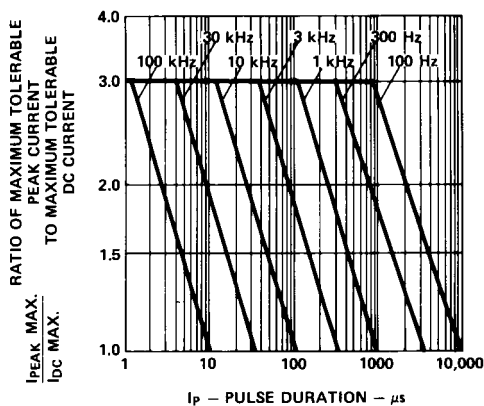

Figure 5. Maximum Tolerable Peak Current vs. Pulse Duration. ($I_{DC\ MAX}$ as per MAX Ratings).
1. See Figure 5 to establish pulsed operating conditions.